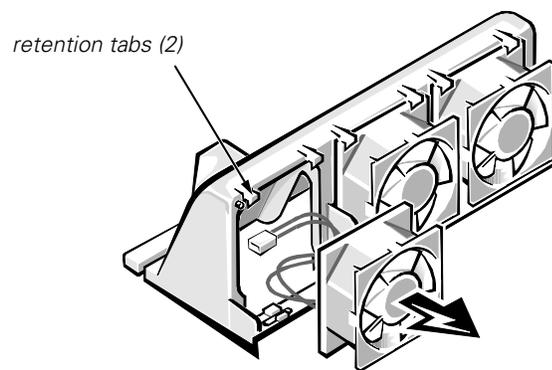

Figure 4-15. Drive Fan Removal
- 1. Remove the faulty fan from the fan carrier by releasing the two retention tabs that secure the fan in the carrier (see Figure 4-15), and working the fan out of the carrier.**